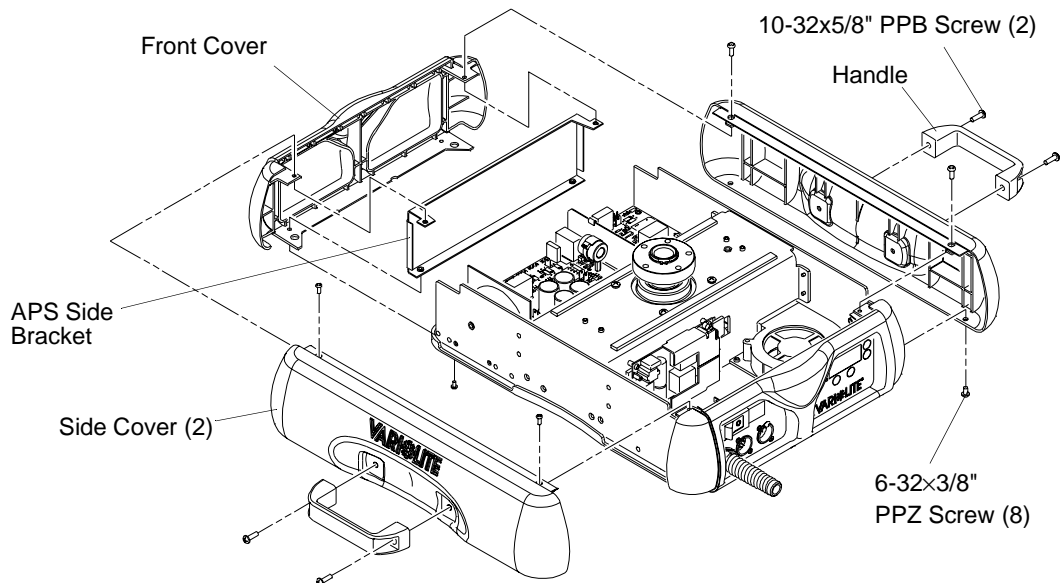

Figure 2-25: Accessing Ballast Module
- Step 4. At enclosure, remove eight 6-32x3/8" PPZ screws and both side covers. **Figure 2-25.**